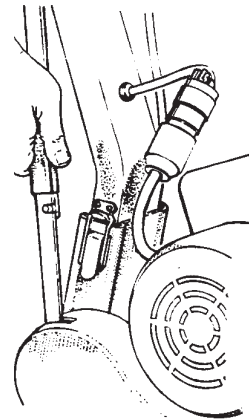

Figure 2
2. Slide collar beyond overlap of control link; remove pin from notch. See figure 2.
4. Release handle latches and remove handle from chassis. See figure 2.